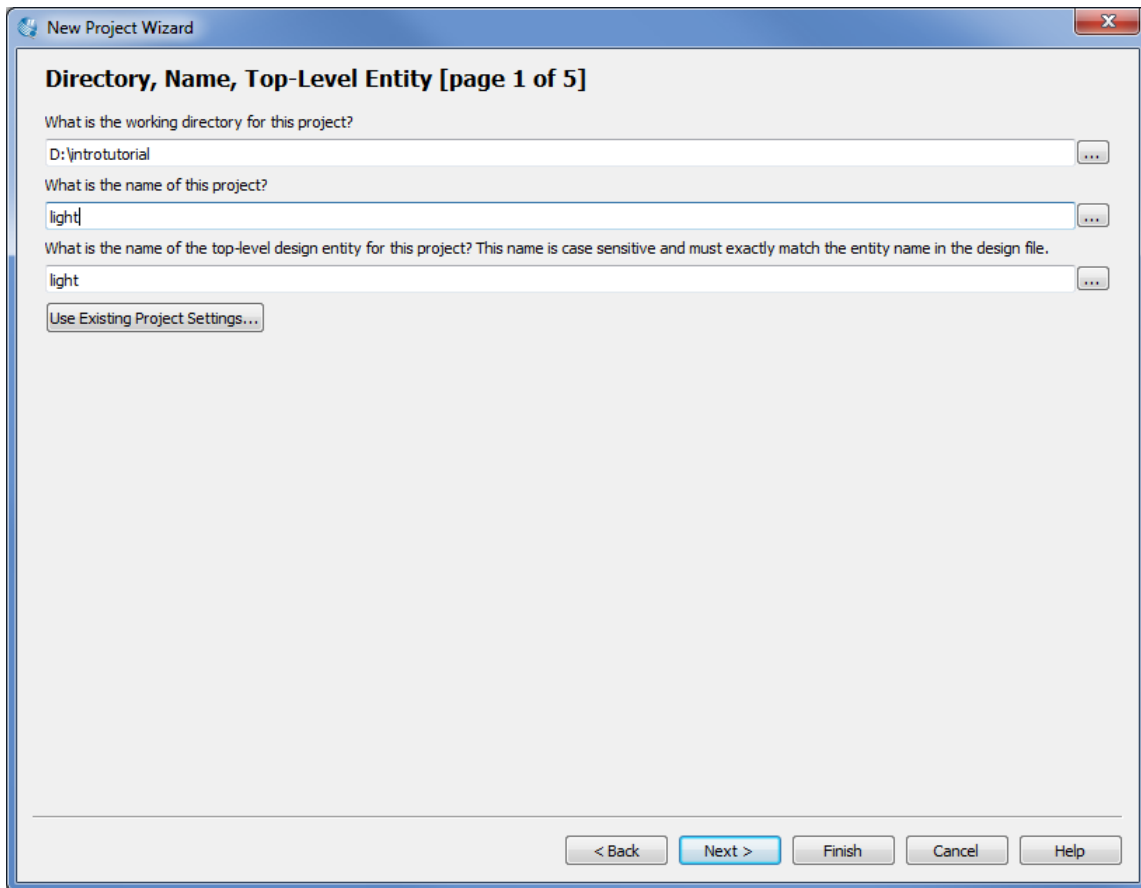
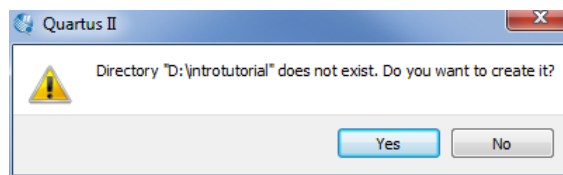
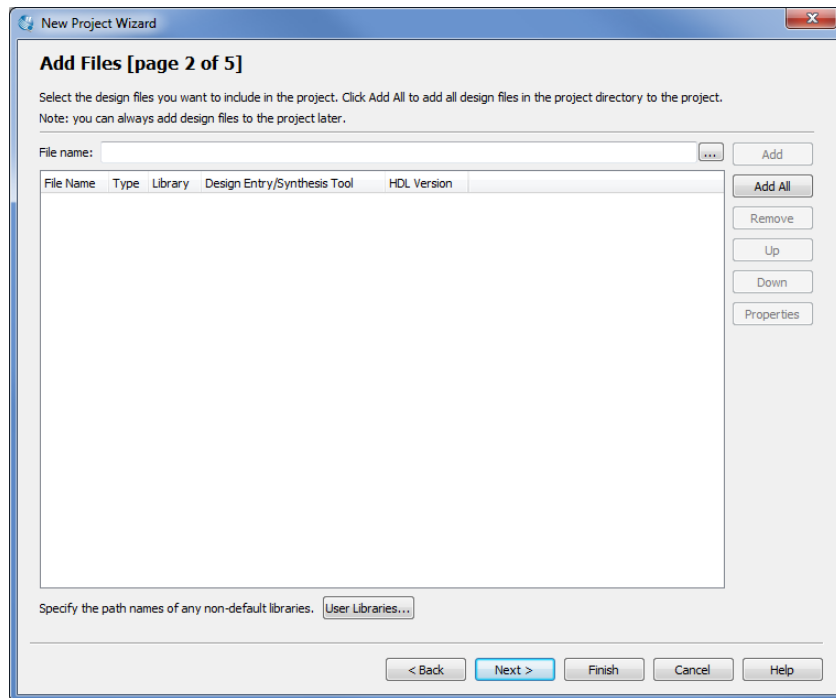

Figure 4. Creation of a new project.
Figure 5. Quartus II software can create a new directory for the project.
Figure 6. The wizard can include user-specified design files.
1. Select **File > New Project Wizard** and click **Next** to reach the window in Figure 4, which asks for the name and directory of the project.
2. Set the working directory to be *introtutorial*; of course, you can use some other directory name of your choice if you prefer. The project must have a name, which is usually the same as the top-level design entity that will be included in the project. Choose *light* as the name for both the project and the top-level entity, as shown in Figure 4. Press **Next**. Since we have not yet created the directory *introtutorial*, Quartus II software displays the pop-up box in Figure 5 asking if it should create the desired directory. Click **Yes**, which leads to the window in Figure 6.
box labeled File name type *light*, to match the name given in Figure 4, which was specified when the project was created. Put a checkmark in the box **Add file to current project**. Click **Save**, which puts the file into the directory *introtutorial* and leads to the Graphic Editor window displayed in Figure 14.